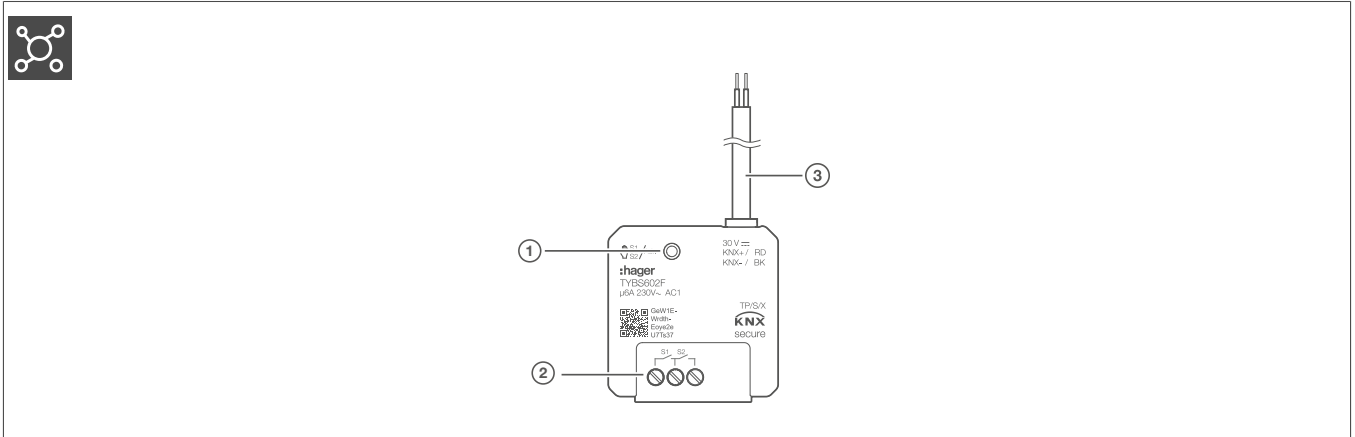

Fig. 2: Design and layout of the device TYBS602F
- 2 Press the programming button (Fig. 2/1).